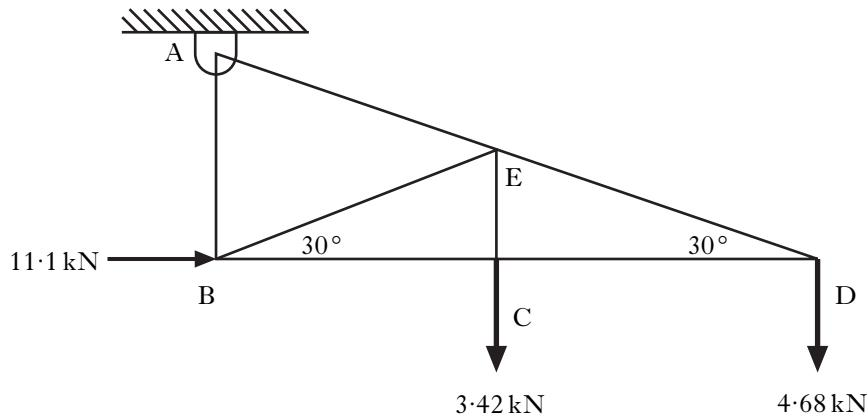

Figure Q10(a)
10. A diagram of a lighting gantry above a stage is shown in Figure Q10(a).
- (a) Using *nodal analysis* for the conditions shown in figure Q10(a), calculate the **magnitude** and **nature** of the forces in frame members DE, CD, BC and BE.